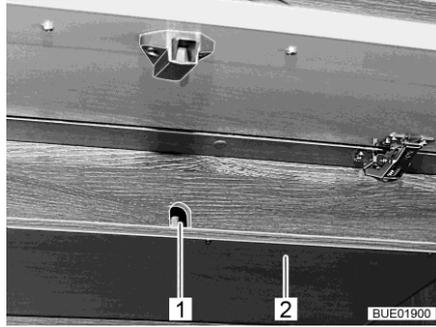

Fig. 195 Flap on the wall-mounted cupboard
- Remove the cover (Fig. 195,2) underneath the access opening (Fig. 195,1) for the crank.